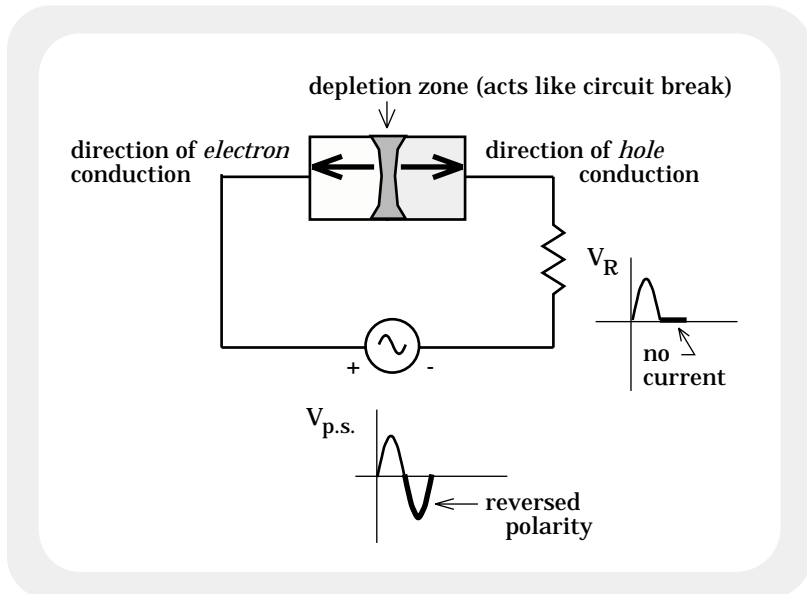

FIGURE 21.5b
c.) During the second half of the power supply's power cycle, the left terminal reverses polarity and becomes positive (see Figure 21.5b). Holes in the p-type semi-conductor move to the right and electrons in the n-type semi-conductor move to the left. This separation of charge carriers (holes going one way, electrons going the other) creates a depletion zone at the junction between the two materials.